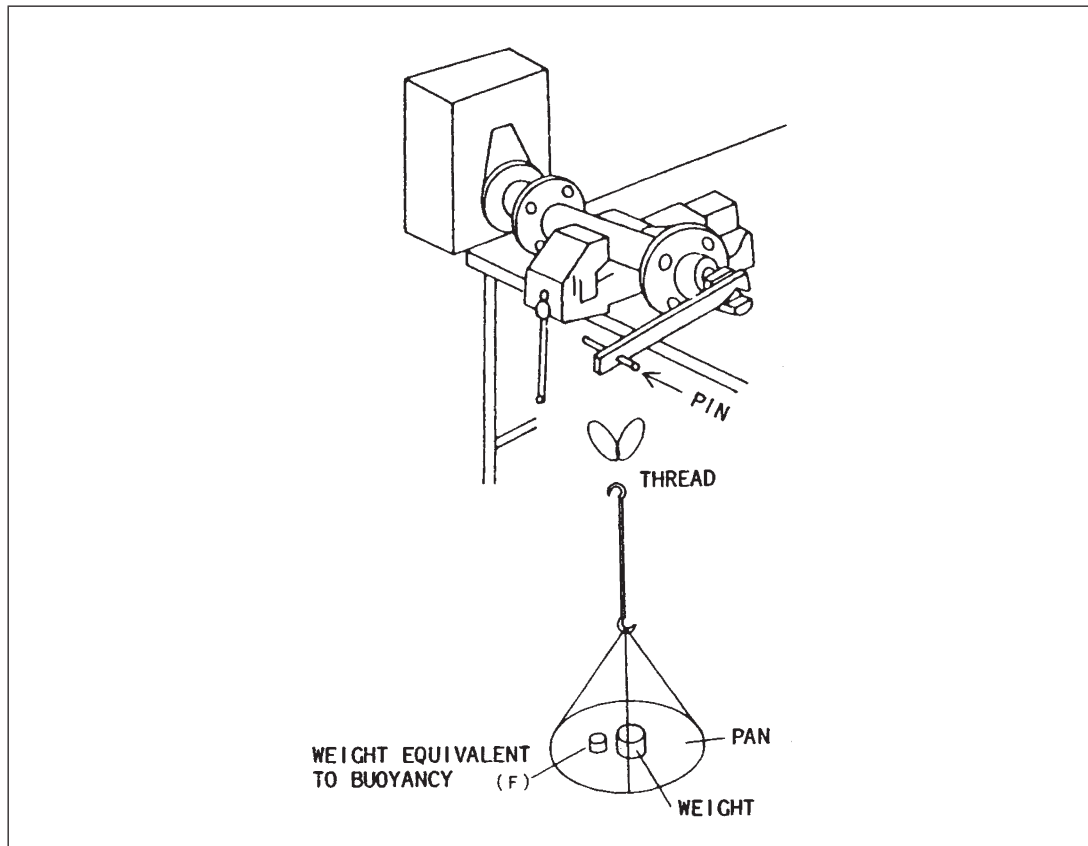

Fig. 4-2.
- (1) Fix the torque tube assembly together with the transmitter to a bench by using, for example, a vice as shown in Fig. 4-2.
- (2) Prepare a weighing pan as shown in Fig. 4-2 and hang it on the pin at the end of the torque tube using a thread or fine wire looped into two cirlcuts.